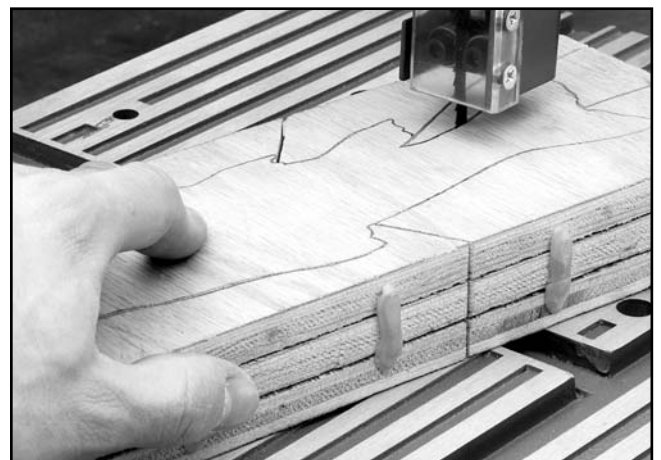

Figure 34. Cutting multiple pieces at once.
6. Cut out the final shape of the workpiece by cutting along the project cut lines as shown in **Figure 34**.